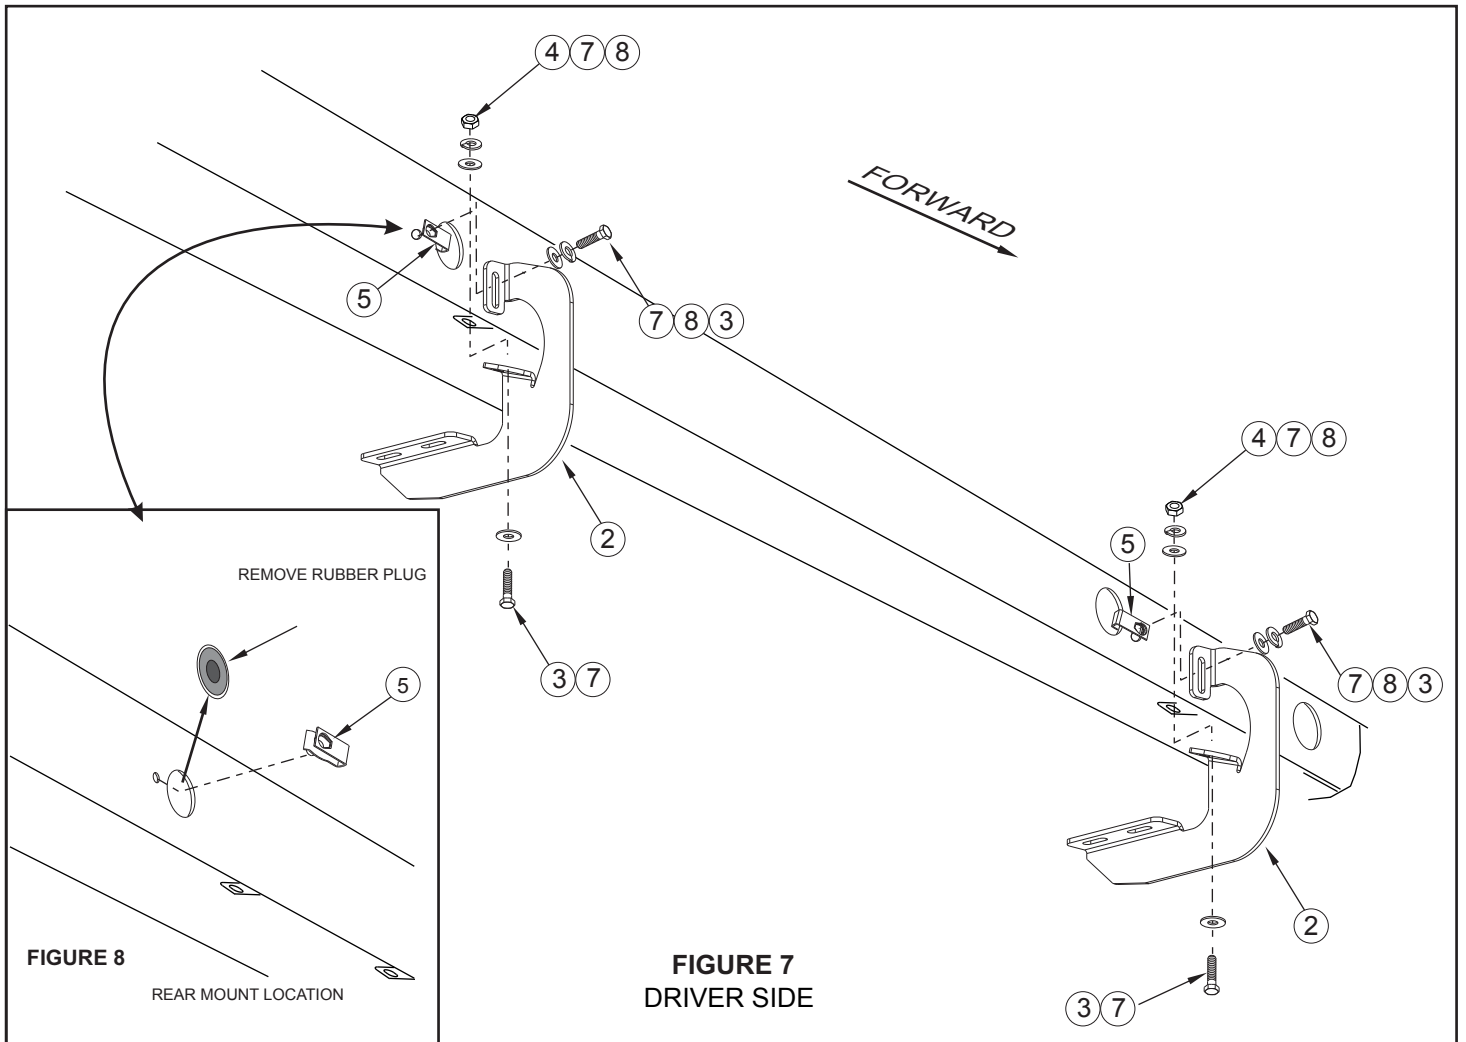

FIGURE 7
- STEP 2.** Attach mounting brackets as shown. SEE FIGURE 7